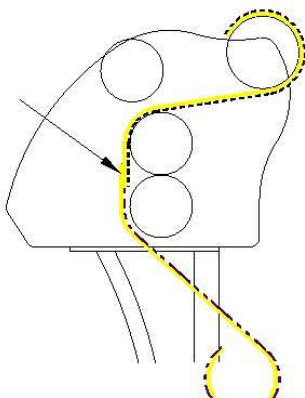

Figure 15
- Stick the lower web on the upper web (figure 15, 16 or 17)